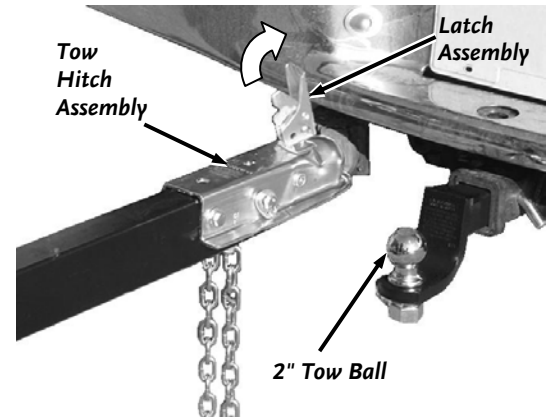

Figure 47
1. Pull the latch assembly on the tow hitch assembly up and into the open position. Position the hitch coupler of the WOOD SPLITTER over and onto the tow vehicle's tow ball (must be a 2" tow ball) (**Figure 47**). In some cases, the hitch coupler may not totally engage with the tow ball without raising the front leg weldment (see step 3).